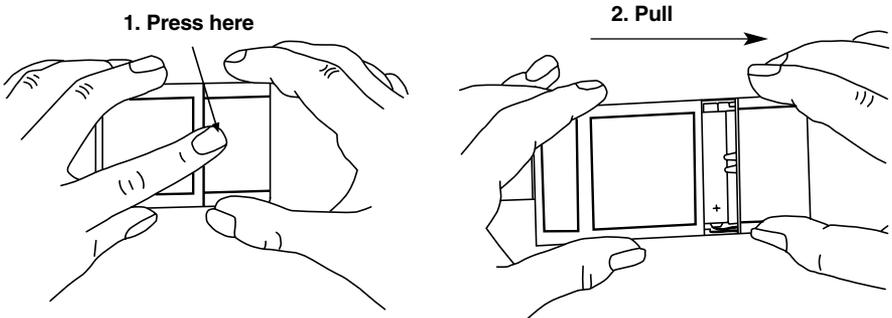

Figure 3-2. Opening the battery compartment.
2. Turn the source or meter onto its front face, then open the battery compartment by pressing on the center of the cover while pulling on the sides, as shown in Figure 3-2.